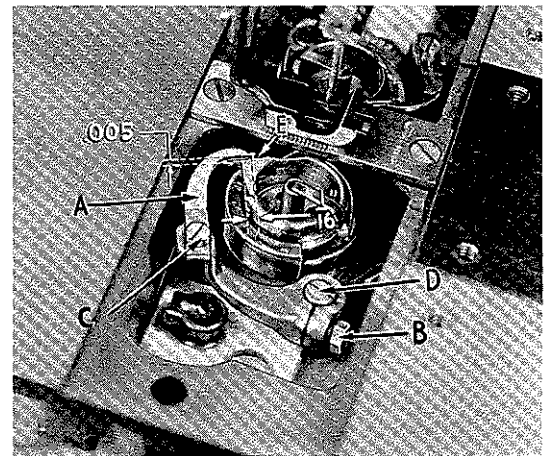

Fig. 17
Place the opener finger (A, Fig. 17) in the machine. Turn the handwheel in the operating direction until the finger is at its maximum point of travel from the needle. While in this position, the opener finger should be moved tightly against the hook basket (E). Loosen screw (C) to make this adjustment. The opener finger should contact the cam surface on the basket for a length of 1/16 inch.